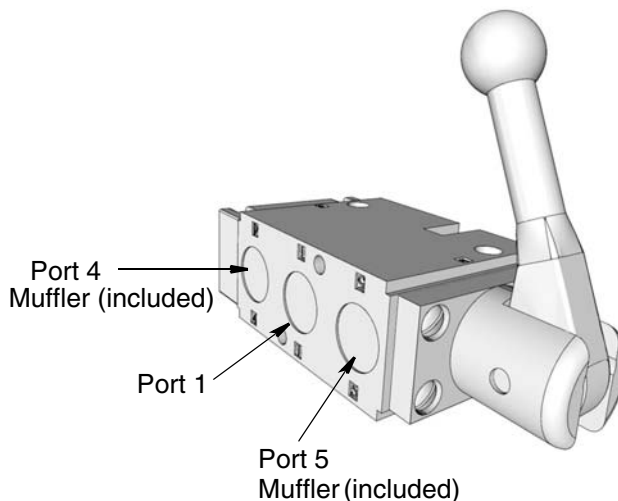

FIG. 66
- a. Connect port 1 to the pneumatic power supply line (FIG. 66).